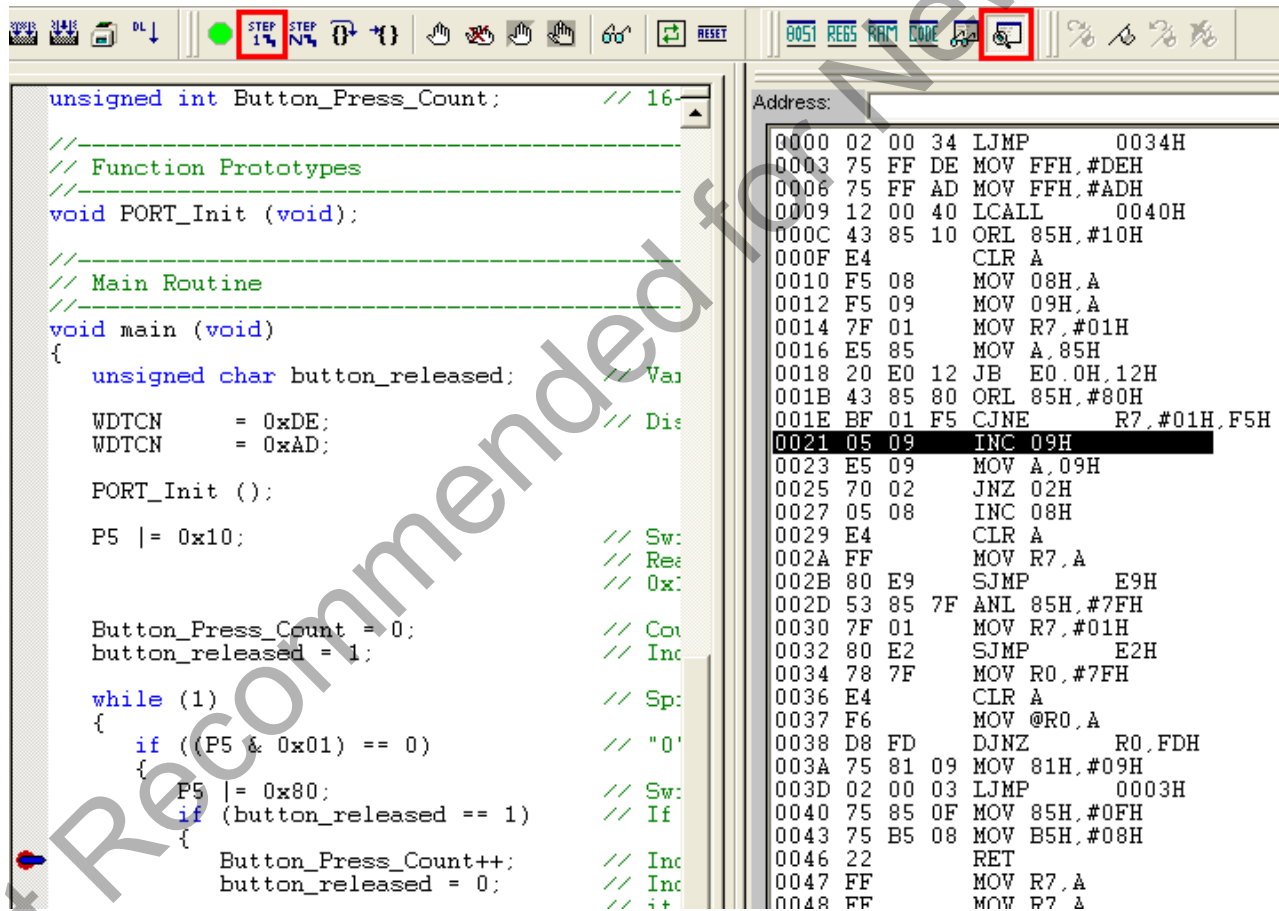

Figure 16. Disassembly Window
3. Select **View → Debug Windows → Disassembly**, or click the **Disassembly Window** button on the toolbar. The disassembly window shown in Figure 16 will appear on the right-hand side of the IDE (if it is not already open).